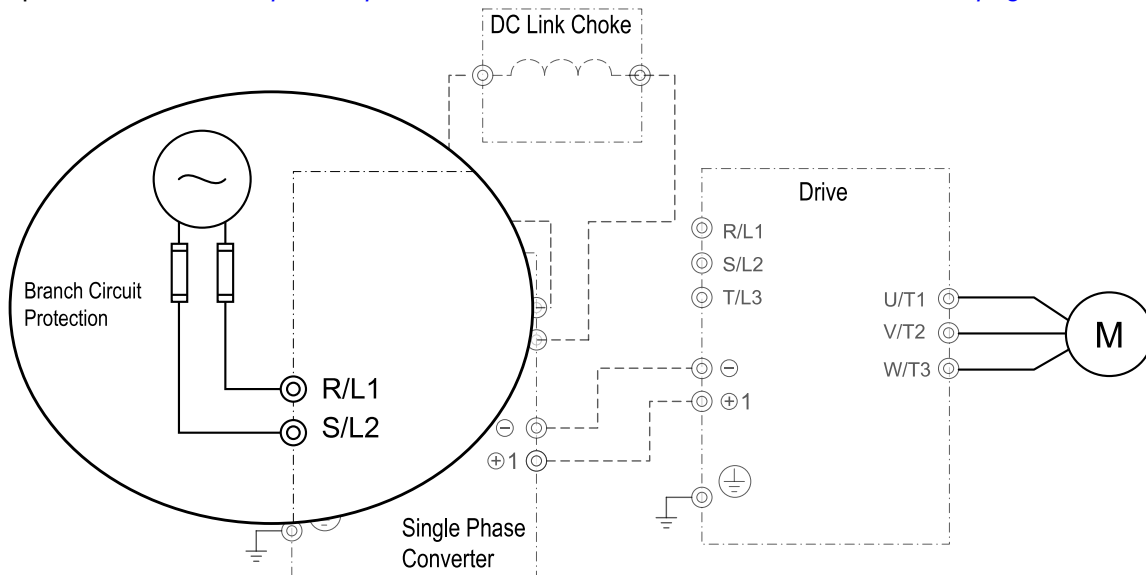

Figure 4.7 Branch Circuit Protection and Main Power Connection
6. Connect main circuit power lines to the converter (R/L1 and S/L2) according to Figure 4.7. Tighten terminals according to Table 6.11.